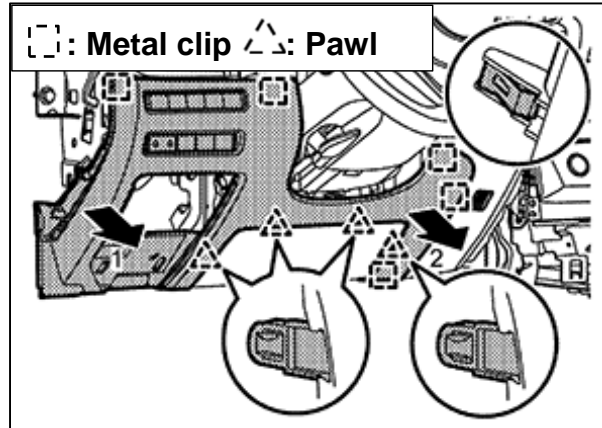

Figure 61
42. Disengage the four (4) LH instrument lower panel fixing pawls and five (5) metal clips, as indicated by the arrows shown in Figure 61.